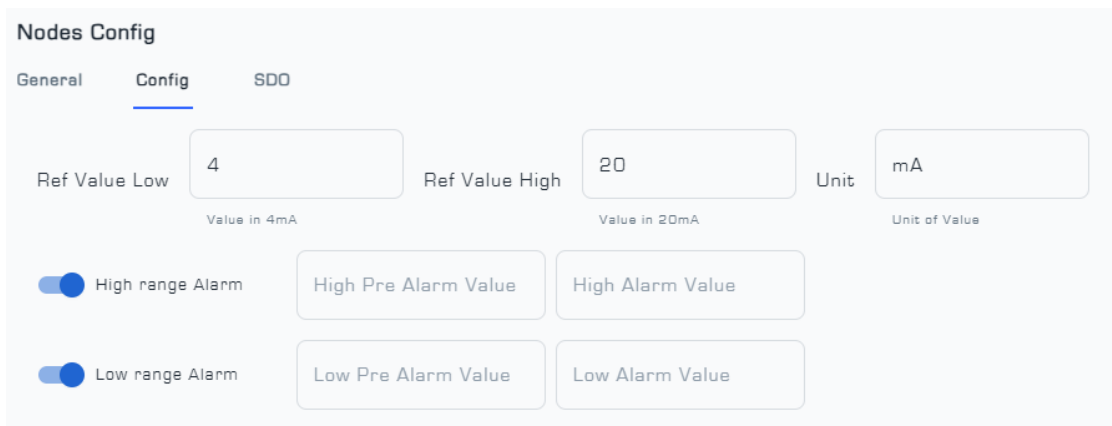

Figure 6: Config Menu from Node Config
- In the Config menu of the 3-channel 20-4 mA Node, as shown in Figure 6, the alarm settings of the Node can be configured. The High Alarm Value and High Pre-Alarm Value are related to setting the alarm and pre-alarm for the maximum danger value for the Node, and the Low Alarm Value and Low Pre-Alarm Value are related to setting the alarm and pre-alarm for the minimum danger value for the Node.